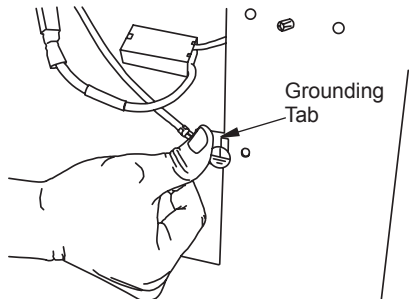

Figure 28 - Adjusting Grounding Tab
11. Push grounding tab inwards (approximately 60 degrees) (see Figure 28).